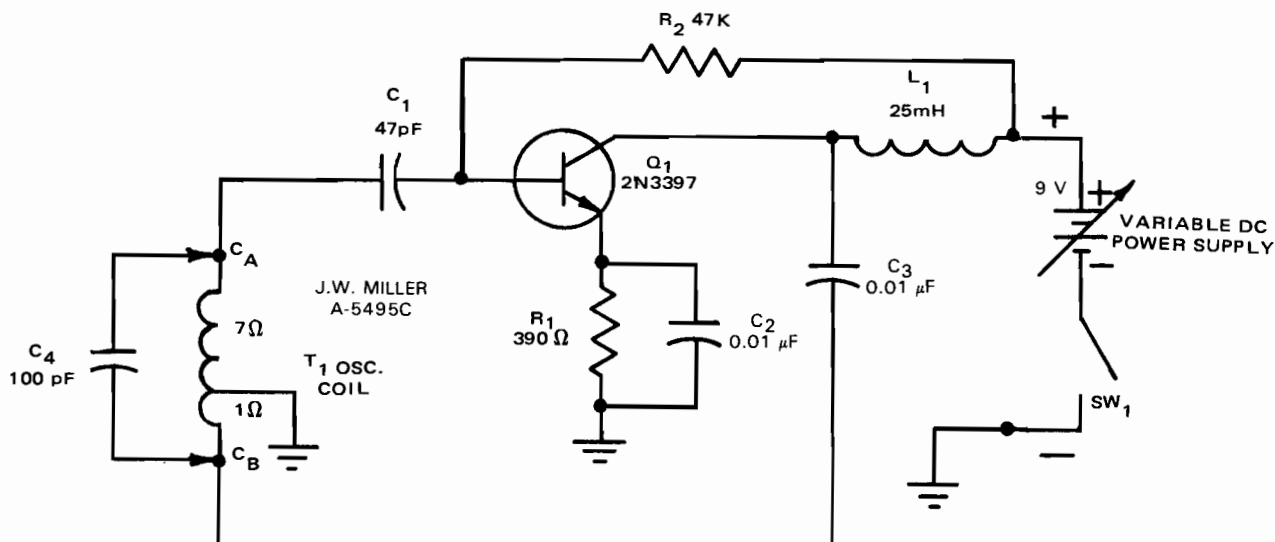

Fig. 18-2-1
When the circuit switch in Fig. 18-2-1 is turned on, current flows from negative side of source through R_1 to emitter. With the collector and base both connected to the positive side of the source, the E-B junction is forward biased and C is reverse biased. I_E , I_B , and I_C flow as a result of this biasing. A feedback path from the collector, through C_3 to point C_B , and lower part of coil of T_1 produces a magnetic field around the coil. This changing field cuts across the top coil of T_1 and induces voltage into it. The induced voltage charges C_4 , which begins to discharge through T_1 and produce an ac signal. Part of this ac wave also is applied to the base through C_1 , which drives it into momentary cutoff. Then, the operational cycle repeats itself. The feedback signal from collector to base must be in-phase or regenerative in order for the circuit to produce a sustained ac signal generation by the tank circuit.
1. Connect RF Hartley oscillator circuit as shown in Fig. 18-2-1.